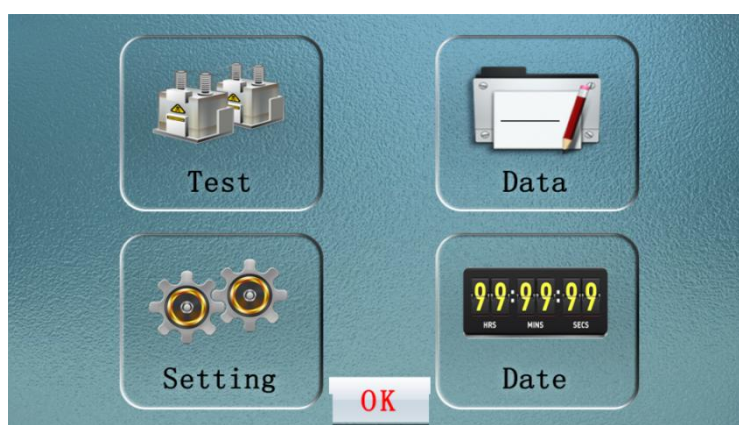
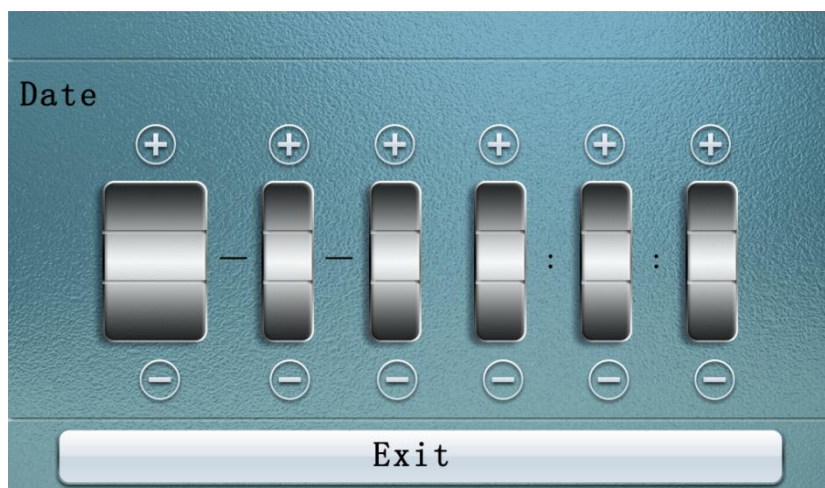

Figure 1
Figure 6
- 1、The boot interface is shown in figure 1:
5、Click "parameter setting" in figure 1 to enter the "parameter setting" interface, as shown in figure 5:
6、Click "clock modification" in figure 1 to enter the clock modification interface, as shown in figure 6: